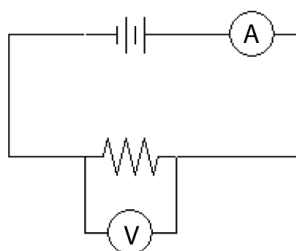

Figure 2.12: Schematic for Step 1
1. **Construct the circuit shown in Fig. 2.12.** Refer to the Suggestions section above. Choose a resistor that has a resistance of at least 1000Ω , so that we can neglect the $\sim 6 \Omega$ internal resistance of the ammeter. Choose a voltage setting on the power supply, and read off the voltage and current from the meters. Then use Ohm’s Law (Eq. 2.1) to experimentally⁵ determine the resistance. Record your measurements in Data Table 1 in your Excel spreadsheet. Refer to Eq. A.2 (included at the end of this write-up) to calculate the uncertainty in your experimentally determined resistance. Compare your measured value (Ohm’s Law value) with the nominal value given by the color code (see Question 1).